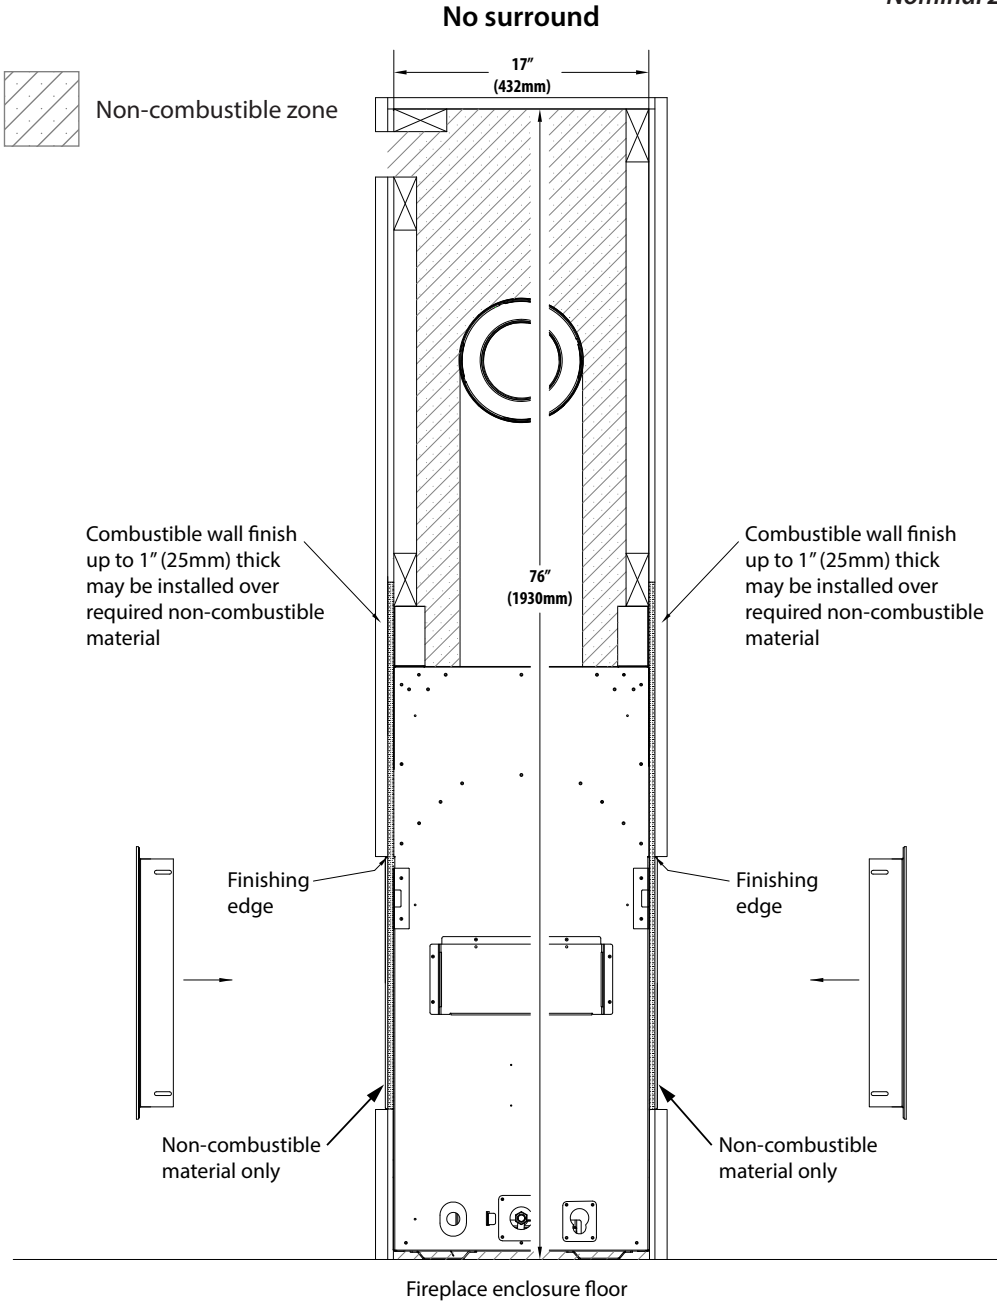

Figure 4.13, Combustible Wall Finish up to 1" (25mm) thick - No Surround (single opening vented cavity installation shown)
- Figure 4.13 on page 46 shows installation of combustible wall finish up to 1" (25mm) thick for Komfort Zone Kit(s) and Vented Cavity installations. For KZK-054 and KZK-1510A installations, reference the manuals included with the kit.